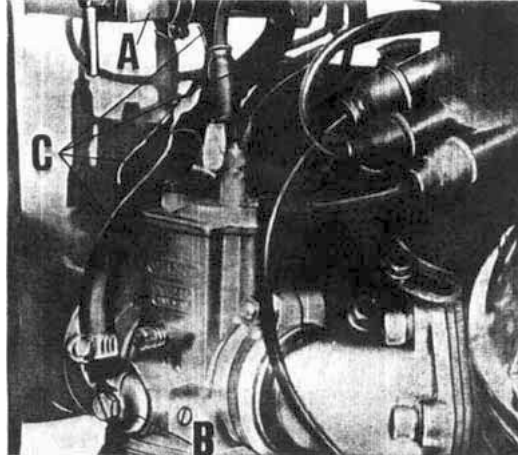

Fig. 20
Filters and fuel lines (See fig. 20)
Every 10.000 kms. or so (6000) miles or any time fuel flow to the carburetors is not regular, it is necessary to check if there are no leakages at the fuel line connections (See C fig. 20) of if the filter on the taps (A) and the carburetors (B) are clean. If the plastic lines have got too hard at their connecting ends, replace them with original equipment.